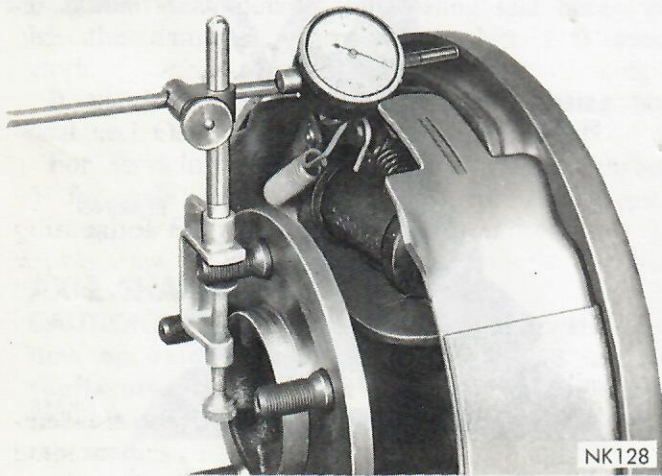

Fig. 14 Measuring Axle Shaft End Play
(1) Using a dial indicator mounted on the left brake support (Fig. 14), **TURN THE ADJUSTER CLOCKWISE UNTIL BOTH WHEEL BEARINGS ARE SEATED AND THERE IS ZERO END PLAY IN THE AXLE SHAFTS. BACK OFF THE ADJUSTER COUNTERCLOCKWISE APPROXIMATELY FOUR NOTCHES TO ESTABLISH AN AXLE SHAFT END PLAY OF .008-.018 INCH.**
(2) Tap end of left axle shaft lightly with a non-metallic mallet to seat right wheel bearing cup against adjuster, and rotate axle shaft several revolutions so that a true end play reading is indicated.
(3) Remove one retainer plate nut, install adjuster lock. If tab on lock does not mate with notch in adjuster, turn adjuster slightly until it does. Install nut and tighten 30-35 foot-pounds.
(4) Recheck axle shaft end play. If it is not within the tolerance of .008-.018 inch, then repeat adjustment procedure.
(5) Remove dial indicator and install brake drum, retaining clips and wheel.